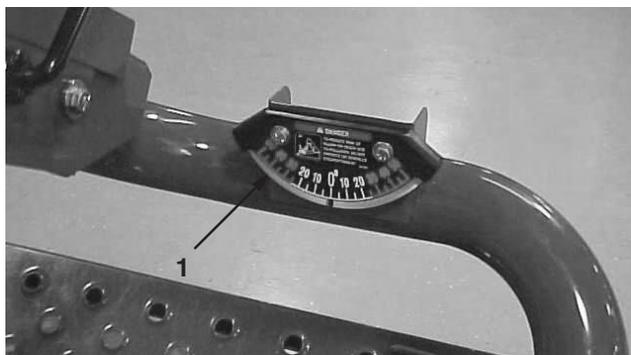

Figure 3
- Verify that the machine is level by placing a hand held inclinometer (supplied with the machine) on the frame cross rail, by the fuel tank (Fig. 3). The inclinometer should read zero degrees when viewed from the operator's position.